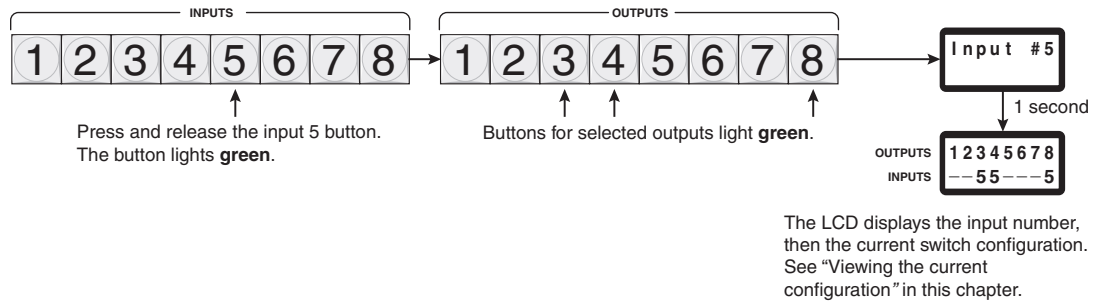

Figure 3-10 — Select an input
1. Press and release the input 5 button (figure 3-10). If the steps in Example 1 have been completed, the output 3, output 4, and output 8 buttons indicate ties created in Example 1.